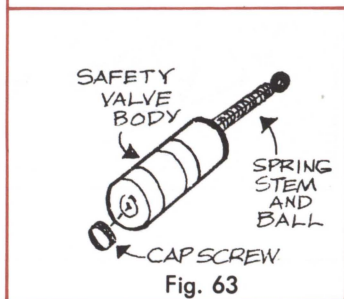

Fig. 63
2. Take the safety valve apart and clean the parts often. Fig. 63. Keep the ball clean with fine steel wool or vinegar.